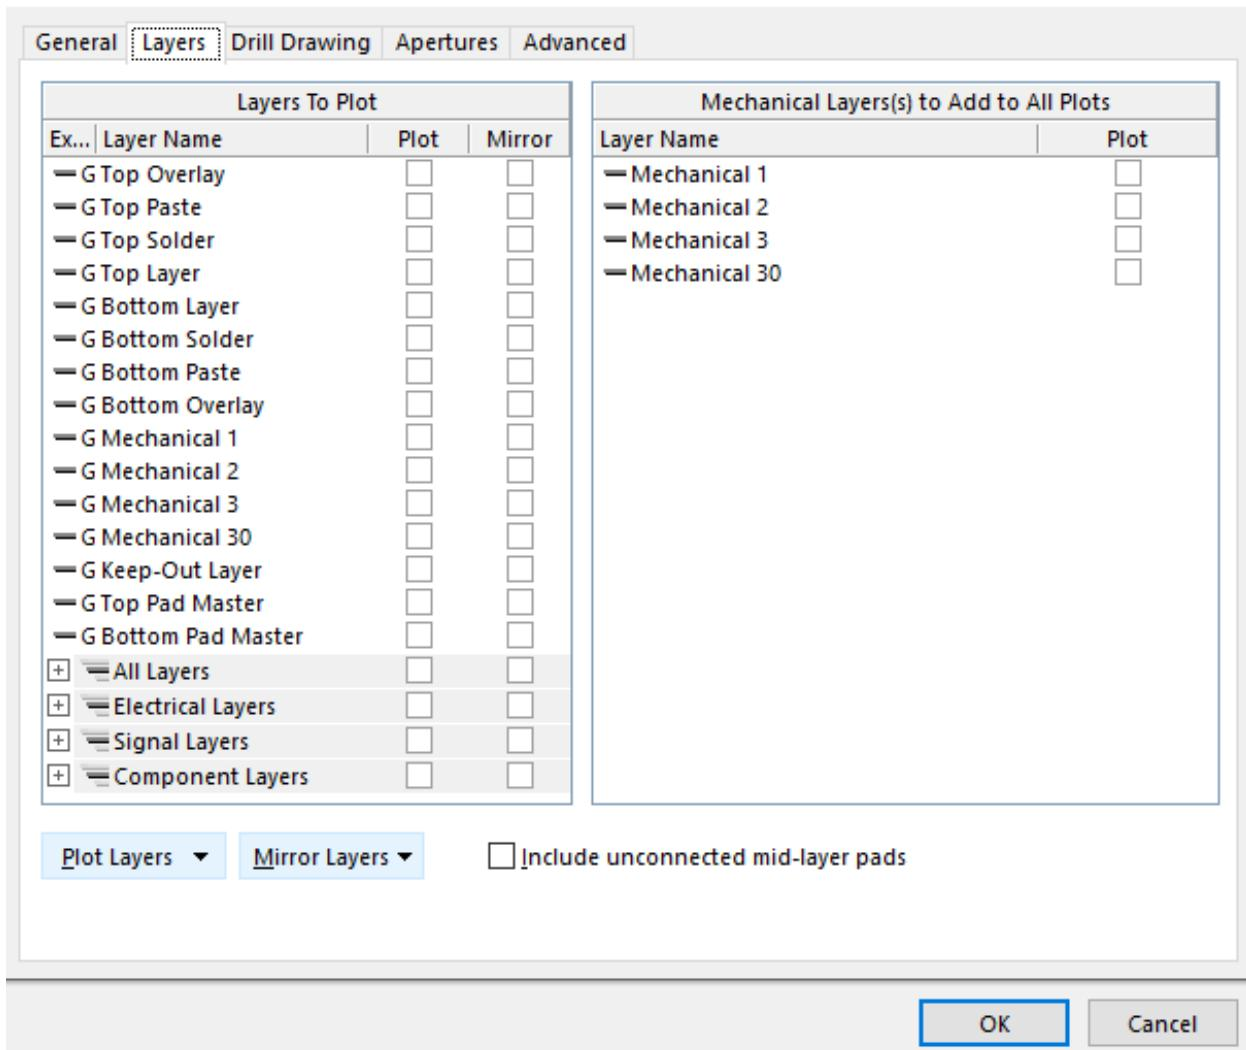
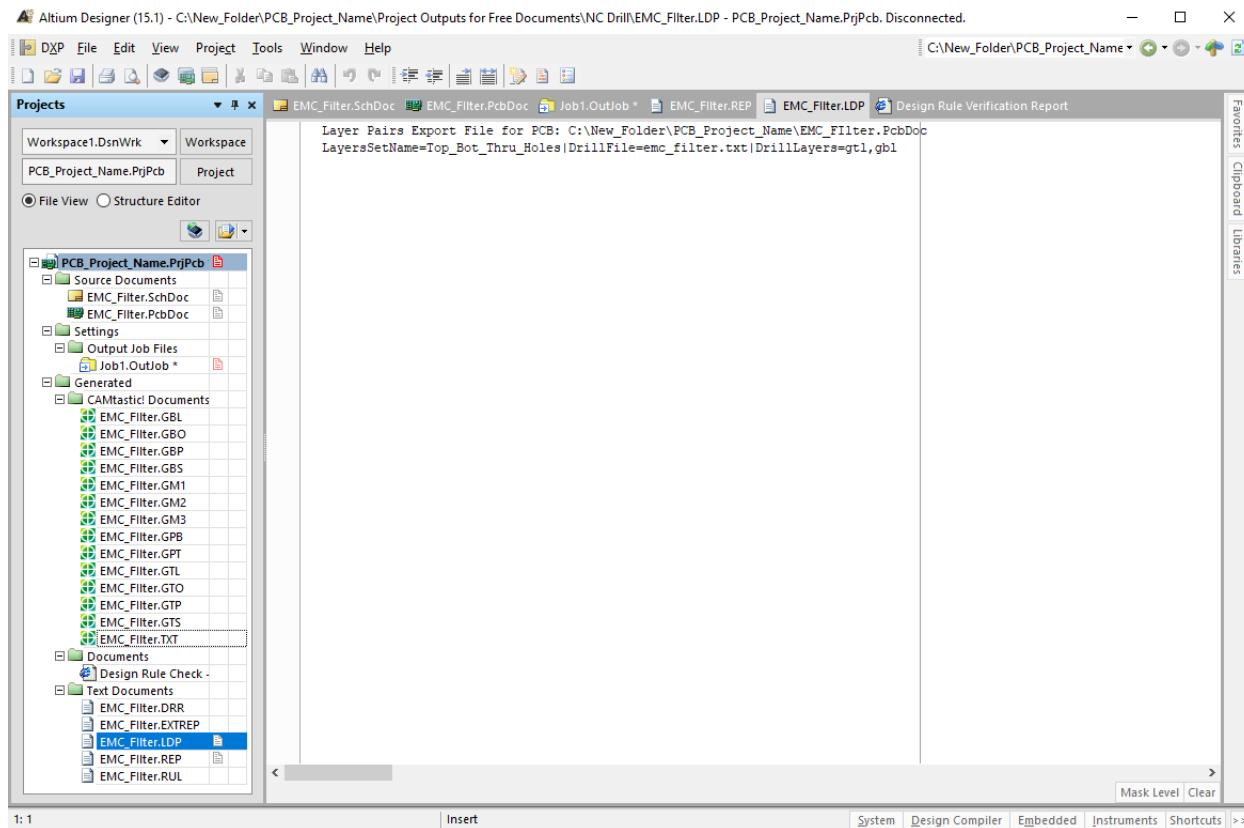

Figure 107: Altium PCB GDP Gerber Setup Layers.
Figure 109: Altium PCB GDP CAM files.
60. The generated output files should look as shown in Figure 109. Notice the *.TXT file and when it is open it shows the drill holes while the rest of the files are named in a short abbreviation of the layer name. By comparison of the naming of this figure with Figure 107 it is clear while there are named in this way.